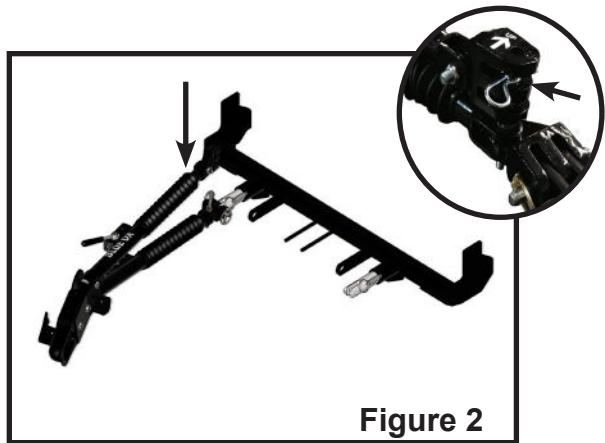

Figure 2
3. Align the driver side triple lug onto the holding pin of the passenger side leg. Secure the lug to the pin with the provided hair pin clip (Figure 2).